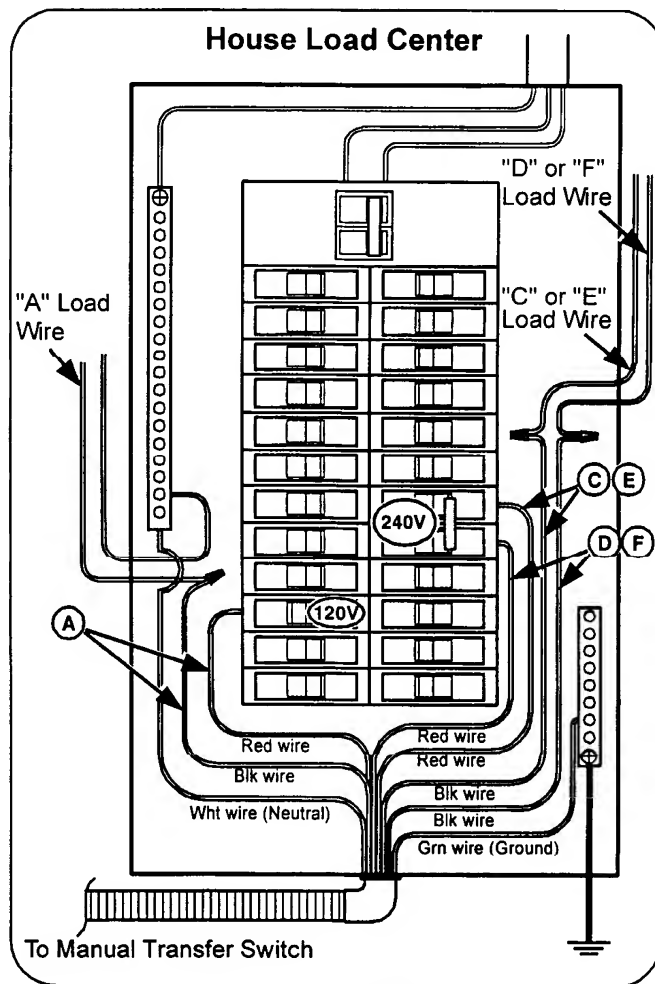

Figure 7. Load Center Wiring (Typical)
6. Install the ground (Grn) wire into the load center ground terminal strip. Refer to Figure 7.
NOTE: Figure 7 shows a typical house load center. The neutral and ground terminal strips may be separate, tied together, or there may be only one terminal strip. Follow local and national electrical codes when installing and securing the neutral and ground wires from the manual transfer switch.
2. Place the load center circuit breaker for that circuit to the OFF position. Disconnect the "A" load wire from that circuit breaker. Refer to Figure 7.
1. Turn the load center 240V circuit breakers (two ganged 120V circuit breakers typically) for the selected circuit to the OFF position. Disconnect the house load wires from the circuit breakers. Refer to Figure 7.
2. Locate the "C" and "D" Black and "C" and "D" Red wires from the manual transfer switch. Route the two "C" and two "D" wires to the circuit breakers for the selected 240V circuit. Refer to Figure 7.
2. Locate the "E" and "F" Black and "E" and "F" Red wires from the manual transfer switch. Route the two "E" and two "F" wires to the circuit breakers for the selected 240V circuit. Refer to Figure 7.